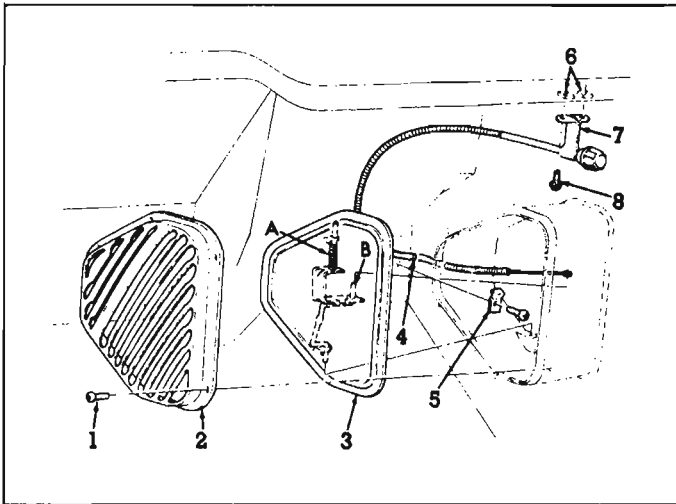

Fig. 10-28a—Air Vent and Controls
Each opening is equipped with an air valve assembly which is manually operated by a push, pull control cable knob connected to the air vent valve (fig. 10-28a).
Refer to Figure 10-28a
3. Unhook control cable end ("C", fig. 10-28a) from ventilator valve hinge pin ("B", fig. 10-28a).
4. Push pin ("A", fig. 10-28a) down against spring and remove valve.
1. Loosen screw which retains cable clamp and cable to panel: Then reposition control cable toward or away from valve as necessary to obtain a fully closed air valve when control knob on dash is pressed completely in. Tighten clamp screw firmly ("5" fig. 10-28a).